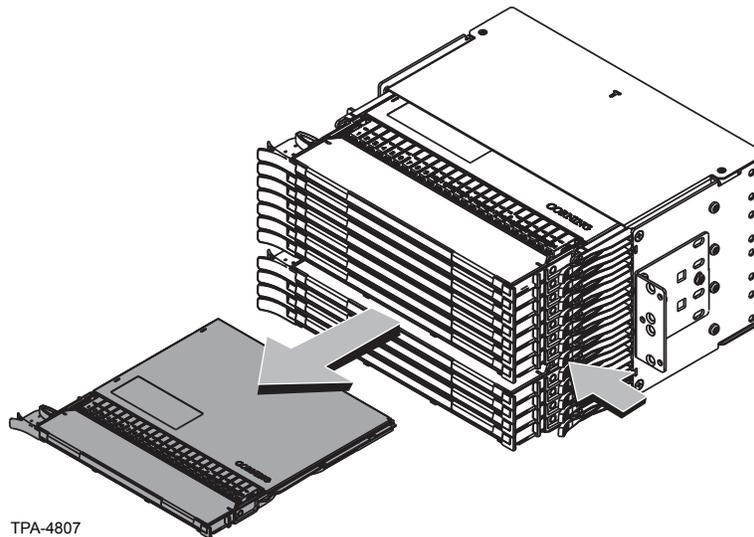

Figure 66
- Step 1:** Press the latch on the right side of the cassette and pull the cassette completely out of the housing (Figure 66) to access the pigtails.